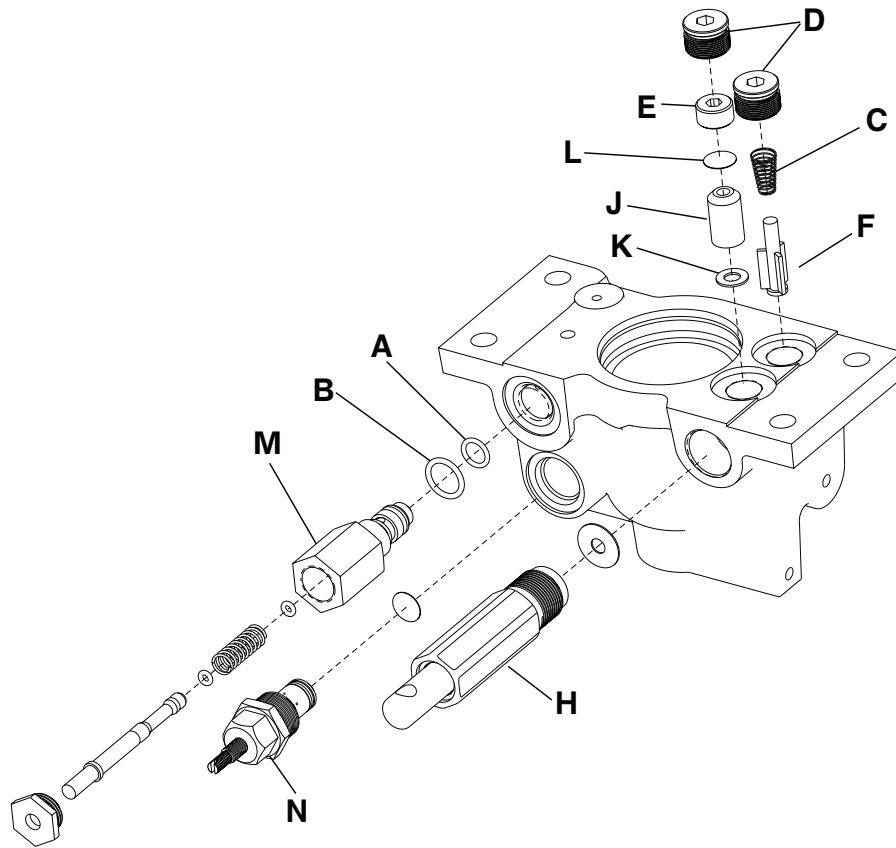

Figure 6 – Poppet valve replacement
9. Remove the base plug (D) and the seal (L) (Figure 6).
10. Remove the valve plug (E).
11. Using a stiff wire with a bent, pointed end, remove the check valve (J) and the seal (K).
12. Using a 1/2" diameter rod, install the seal (K) flat to the bottom of the hole.
13. Install the supplied check valve (J) with the beveled end up.
14. Install the valve plug (E). Use a torque wrench to tighten the plug to 10 ft-lb.
15. Install the seal (L) with the base plug (D). Tighten the base plug to 10 ft-lb.
8. Using a 13/16" open end wrench, remove the adjustable P.C. valve (M) (Figure 6).
10. Install the supplied P.C. valve (M). Moisten the O-ring seal (B) with hydraulic fluid to make sure that the O-ring seals tight.